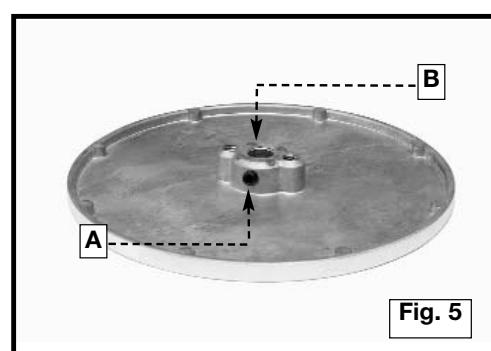

Fig. 5
1. Turn the 1/4-20 x 1/4 in. hex socket set screw (A) Fig. 5 counter-clockwise until it clears the hole (B) in the sanding plate.